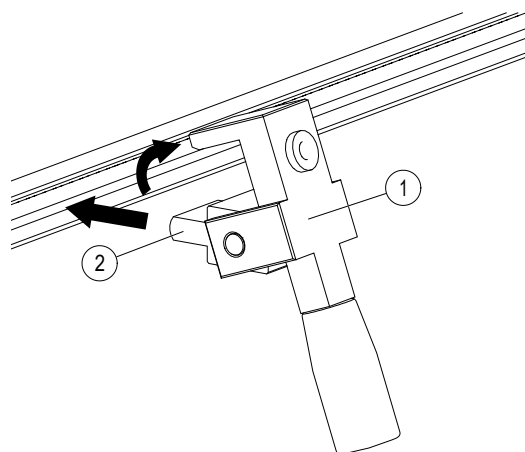

Fig. 73: Position drilling jig
- Open the drilling jig (1) using the handle (see Fig. 73).
- Push the clamping unit (2) of the drilling jig into the conductor rail so that the drilling jig (1) is flush with the marking (M) (see Fig. 73 and Fig. 74).